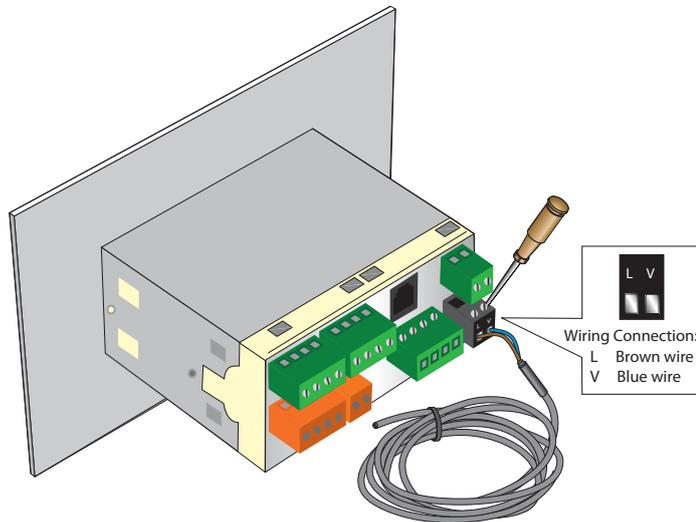

Figure 17 *Low Voltage Power Supply Connections*
Connect the power supply to the monitor (1) as shown in *Figure 17*.